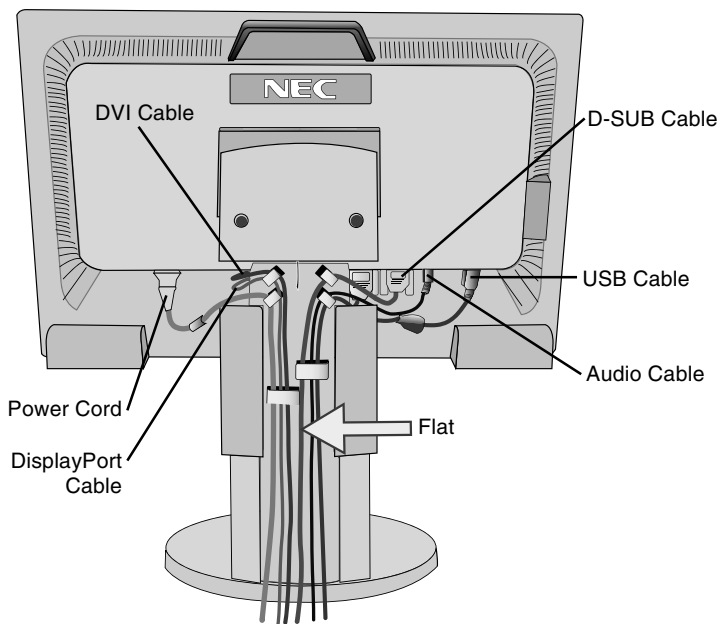
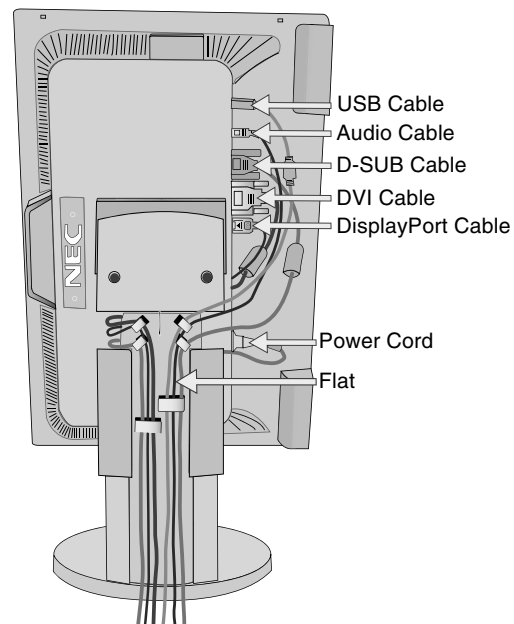

Figure C.2
Figure C.3
- To keep the cables neatly organized, place them into the cable management system that is built into the stand. Place the Power cord and DVI cables into the specific hooks, as indicated in **Figure C.2/Figure C.3**. Place the D-Sub and the USB cables into the specific hooks, as indicated in **Figure C.2/Figure C.3**.
- Make sure all cables are resting flat against the stand (**Figure C.2/Figure C.3**). Please check Tilt, Rise and Lower monitor screen and screen rotation when you manage cables.